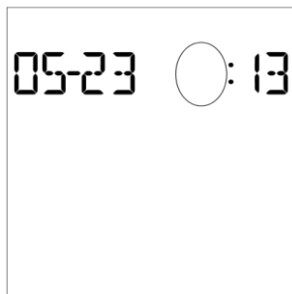

Fig 5.5
- 4) Press the right or left button to select the target hour, short press of the power button to save the hour setting and enter the minute setting (Ref Fig 5.5).